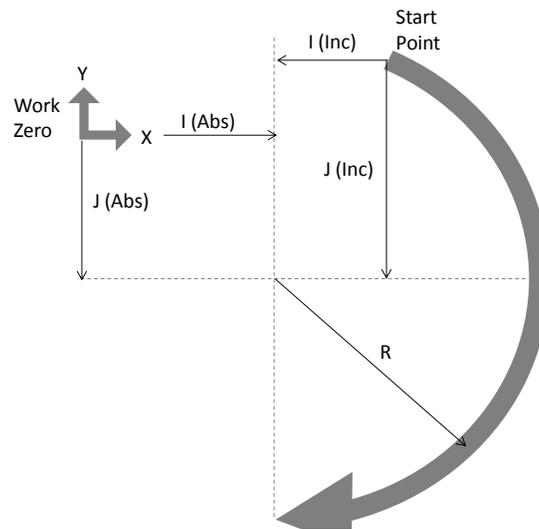

FIGURE 2 PATH OF TOOL POINT IN CIRCULAR AND HELICAL INTERPOLATION (G02)
**G02/G03 – Arc Feed Move:** Used to cut an arc at a federate specified by F. An arc is defined by its start and end points, its radius or center point, a direction, and a plane. Direction is determined by G02, clockwise, and G03, counterclockwise, when viewed from the plane's positive direction (If XY plane is selected look down so that the X axis positive direction is pointing to the right, and the Y axis positive direction is pointing forward). See figure 2 for a graphic representation of the motion of a G02. The start point is the current position of the machine. Specify the end point with X, Y, and Z. The values input for the end point will depend on the current G90/G91 (abs/inc) setting of the machine. Only the two points in the current plane are required for an arc. Adding in the third point will create a helical interpolation.